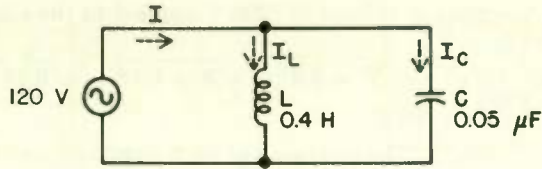

Fig. 28
5. At a frequency of 1000 Hz the current I in Fig. 28 is (a) _____ milliamperes and the circuit impedance is (b) _____ ohms. At a frequency of 1100 Hz the current I is (c) _____ milliamperes and the circuit impedance is (d) _____ ohms.